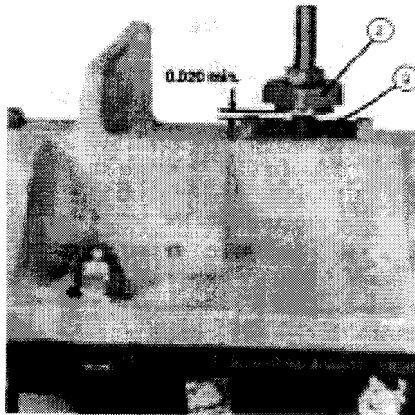

Figure 1 Adjustment Nut and Pivot Plate
Measure gap from bottom of gap adjustment nut (item 2) to the top of metal pivot plate (item 9). Refer to Figure 1 for item locations. **Do not change adjustment of nut.** This measurement must be 0.020" minimum. If measurement is less than 0.020", the contact tips have worn beyond acceptable tolerances and a new vacuum interrupter assembly is required.